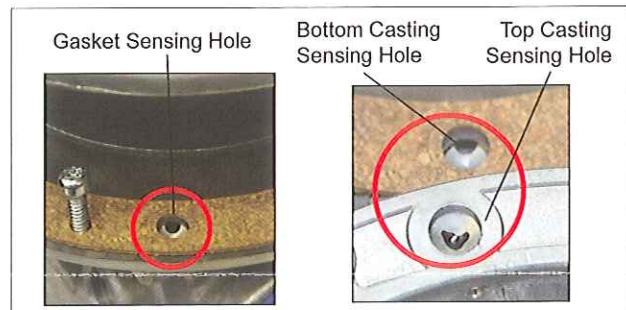

Figure 5: Step 7
7. Reassemble in reverse order of removal. Be sure to line up sensing holes located in gasket, top and bottom flange (see Figure 5). Be careful not to over-tighten by-pass conduit nuts.